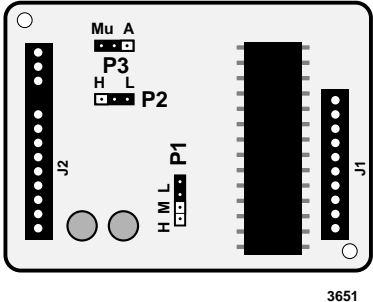

Figure 7-7 Remote Maintenance Modem (IMDU2) Installation
- Mate IMDU2 connector J1 with P1 or P2 and IMDU2 J2 with P3 and P4 (see Figure 7-7).